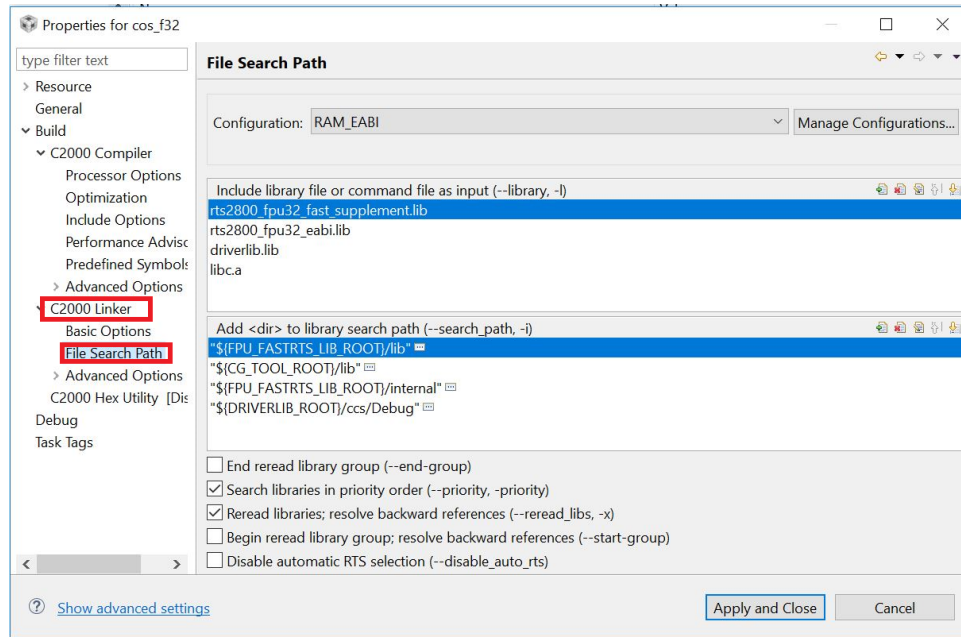
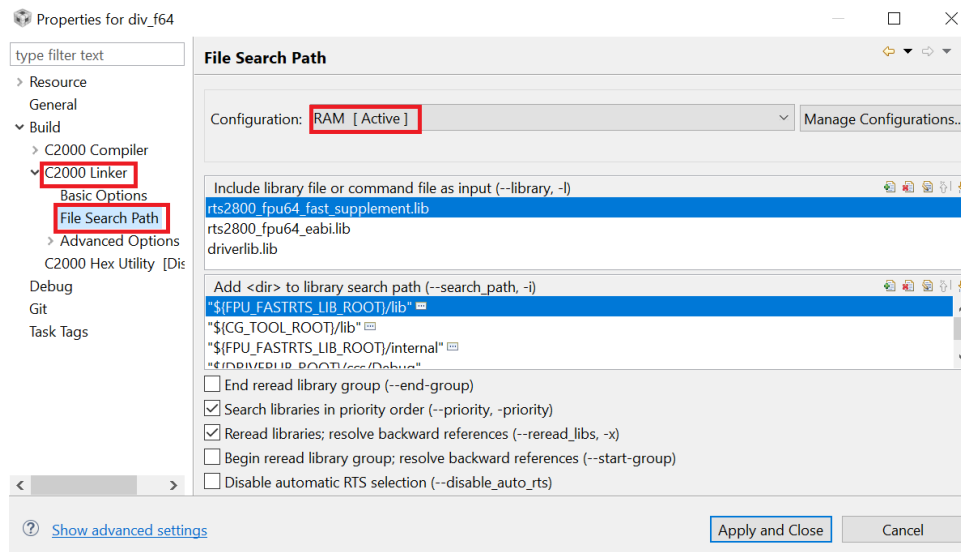
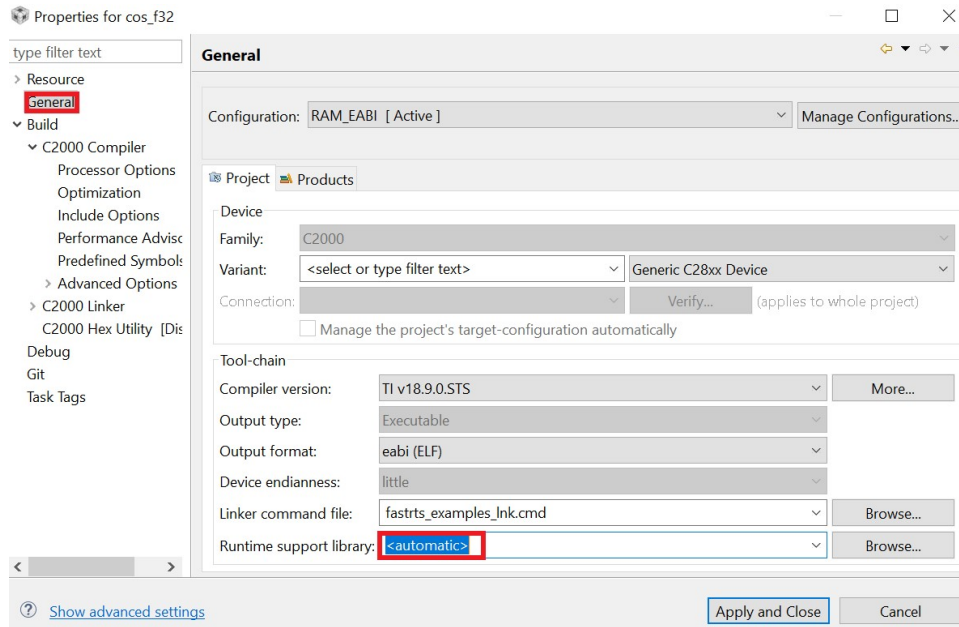

Figure 4.8: Adding the library and location to the file search path
Figure 4.9: Adding the library and location to the file search path
Figure 4.10: Selecting the Runtime Support Library
4. Add the name of the library and its location to the **File Search Path** as shown in Figure 4.8 and Figure 4.9. For the single precision DSP library add **rts2800\_fpu32\_fast\_supplement.lib**, and **rts2800\_fpu64\_fast\_supplement.lib** for the double precision library.
- In the project properties clear the *Runtime Support Library* option, as shown in Figure 4.10, or set it to auto. If you wish to include one of the other run time support libraries in your project, add it from the *File Search Path* option, as shown in Figure 4.8 and Figure 4.9, and place the fastRTS library above the other RTS library and select the **--priority** check box to ensure the compiler pulls the math routines from the fastRTS but the support routines (like